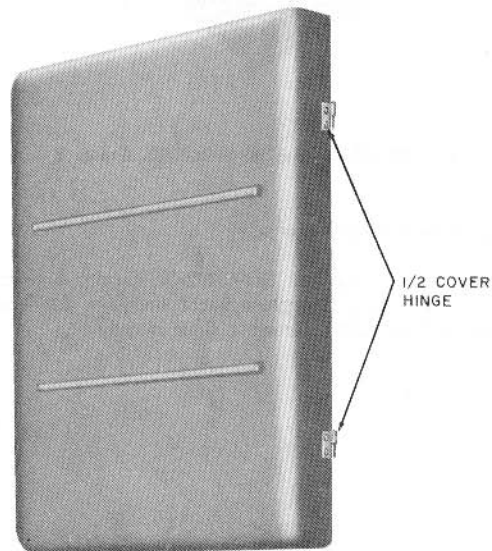

Fig. 41—Cover per ED-69463-50, Group 9
8.08 The ED-69463-50, Group 9 (Fig. 41) cover is a formed plastic cover hinged on the right side and held closed by magnetic catches. The hinges are the lift-away type to simplify installation and removal for maintenance. The keepers for the magnetic catches are mounted on the left side of the gate. The cover becomes part of the gate and the gate can be opened without disturbing the cover. Two Group 9 covers are required for one Group 8 relay rack. Half of the hinges mount on the relay rack gate and the other halves are riveted to the Group cover.